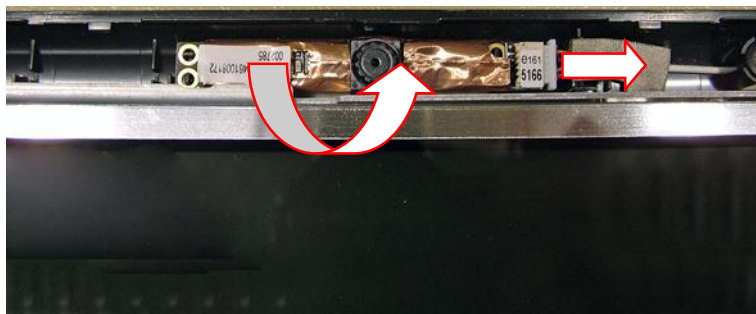

Fig. 45 Location of webcam connector.
2. Carefully remove any adhesive tape securing the module (see Fig. 45).